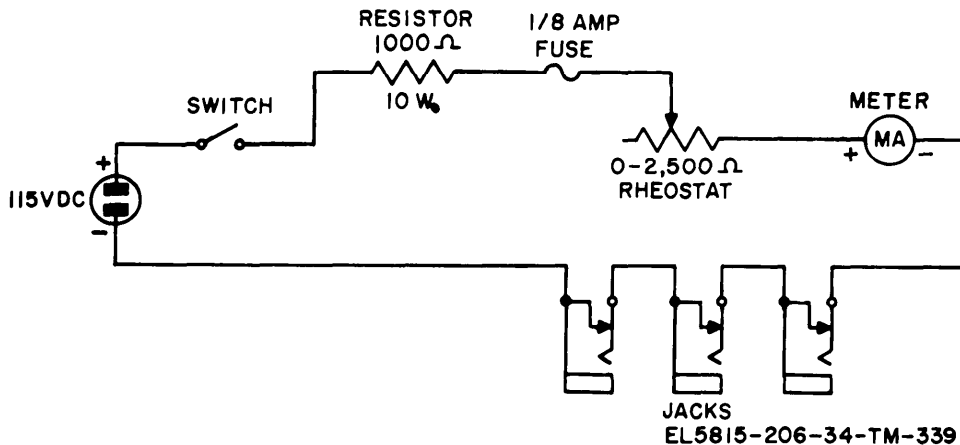

Figure 4-1. Direct current control device for testing high-level teletypewriters, schematic diagram.
(3) A locally fabricated direct current control device (fig. 4-1) is required for general support maintenance to test all high-level teletypewriters